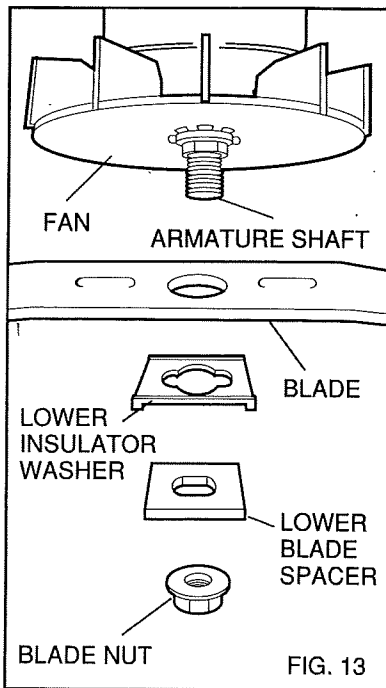

FIG. 13
4. Remove lower blade spacer, lower insulator washer and blade (Figure 13).